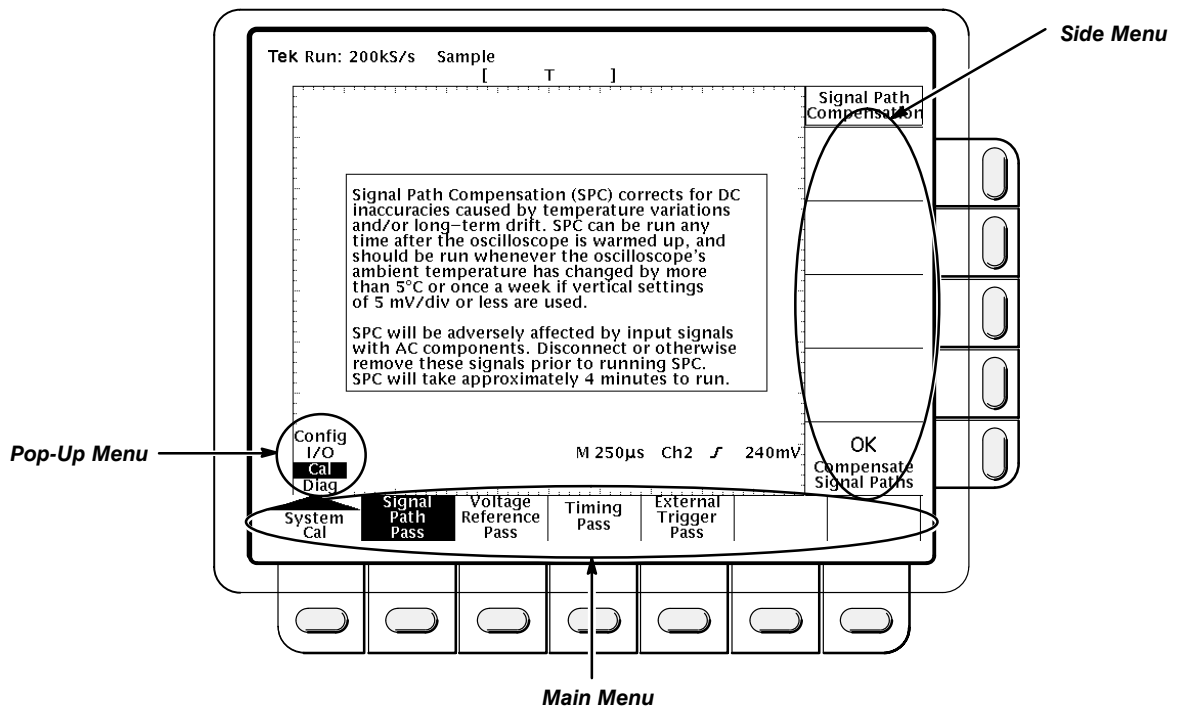

Figure 6-1: Menu Locations
- Refer to Figure 6-1: “Main menu” refers to the menu that labels the seven menu buttons under the display. “Side menu” refers to the menu that labels the five buttons to the right of the display. “Pop-up menu” refers to a menu that pops up when a main menu button is pressed.
6. Check that a square-wave probe-compensation signal of about five divisions in amplitude is on screen. (See Figure 6-1 on page 6-2 to locate the readout.)